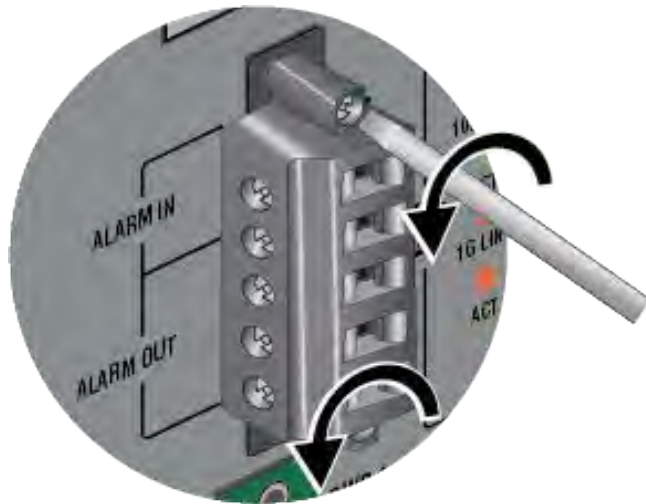

Figure 54. Loosening the Captive Screws on the ALARM IN / ALARM OUT Plug
4. Loosen the two captive screws securing the ALARM IN / ALARM OUT plug to the switch. Refer to Figure 54.